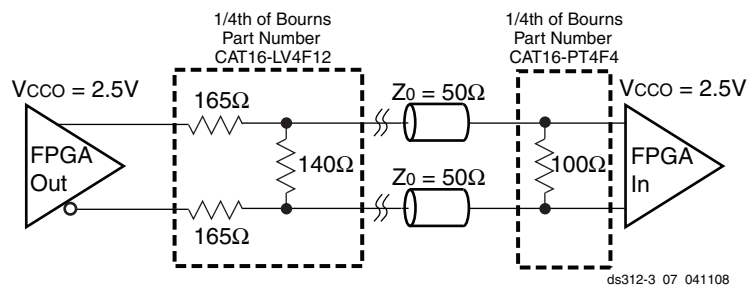

Figure 72: External Termination Resistors for BLVDS Transmitter and BLVDS Receiver
2. Output voltage measurements for all differential standards are made with a termination resistor (RT) of 100Ω across the N and P pins of the differential signal pair. The exception is for BLVDS, shown in Figure 72 below.